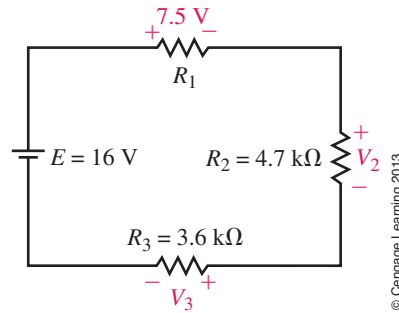

FIGURE 5–61
18. Refer to the circuit of Figure 5–62: